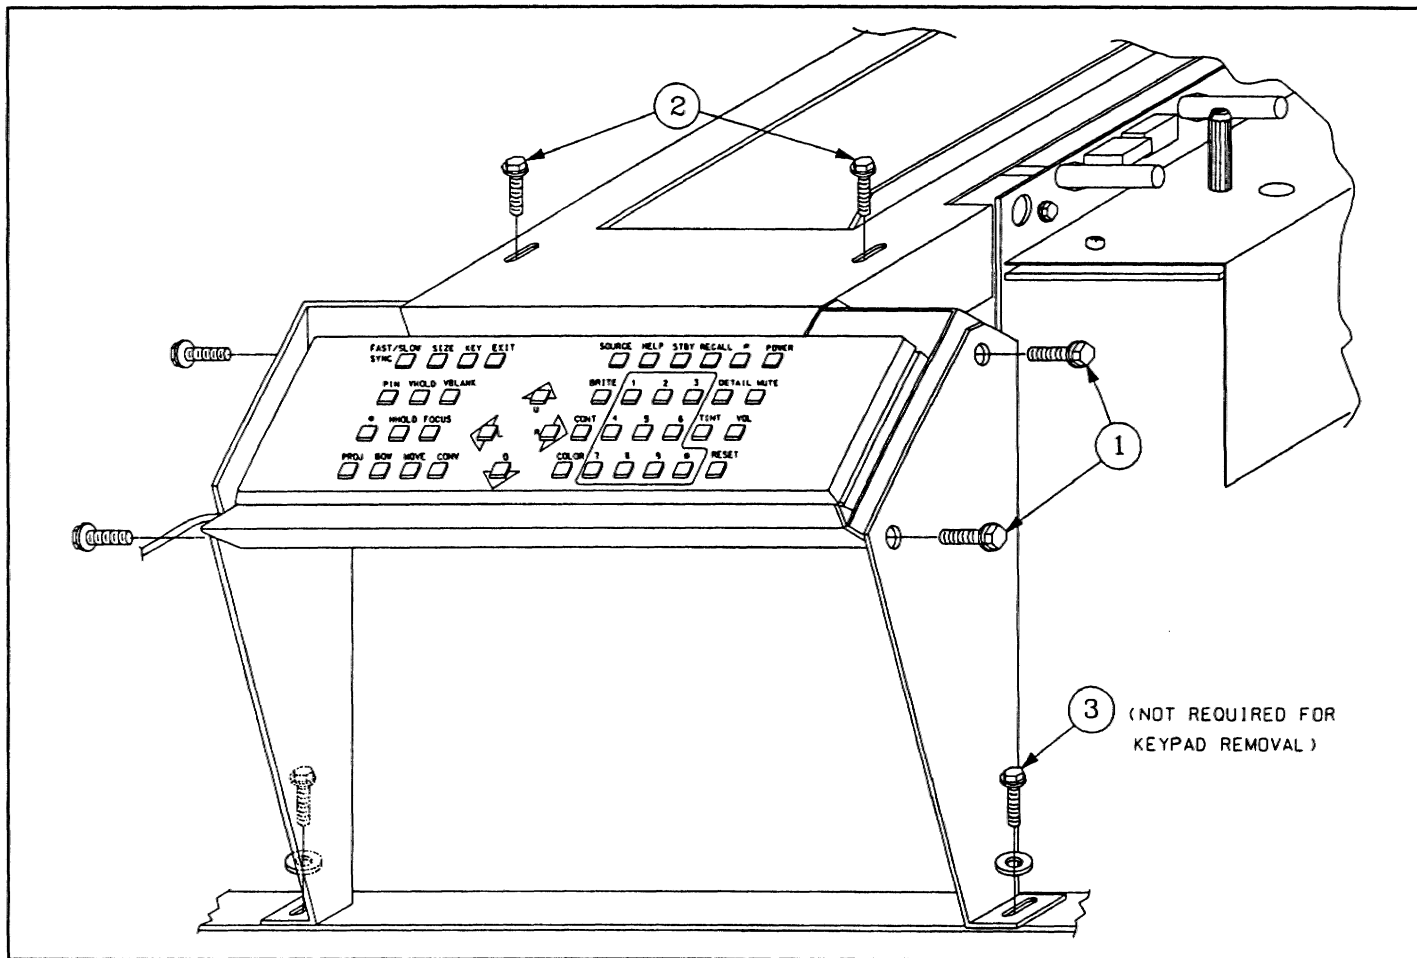

FIGURE 5-11. Keypad Removal
d) Remove the 4 hex head screws which secure the keypad holder to the side brackets. See Figure 5-11, item 1.
e) Remove the top 2 hex head screws which secure the keypad holder to the top bracket as shown (item 2).
g) If the keypad side brackets must also be removed for ease in accessibility to other modules, remove the 2 side bracket mounting screws (item 3).
NOTE: Item 3 in Figure 5-11 does not require removal if only the keypad is to be removed.